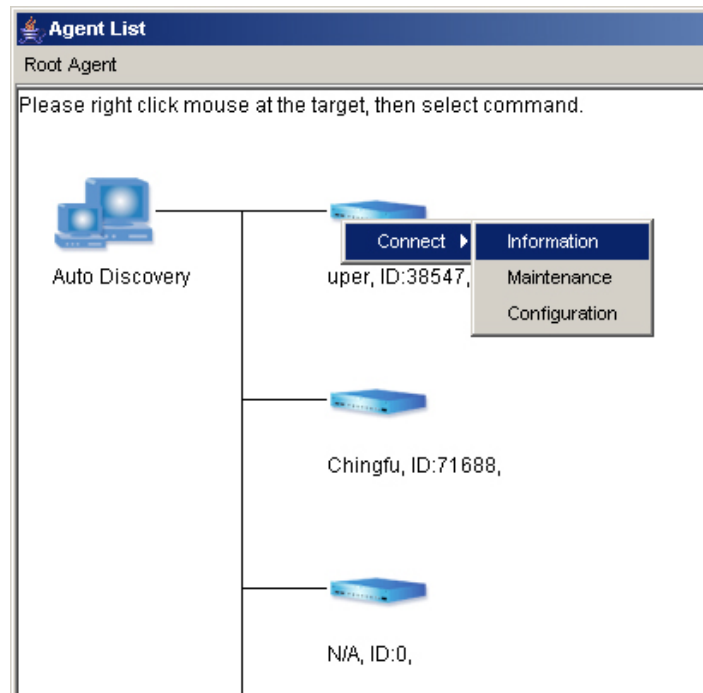

Figure 6-6: Retrieve IP List: IPs Managed by Root Agents
Step 1. If you would like to see the available RAID subsystems that are connected to the network or a specific root agent, you may click the **Show Root Agent List** button on the bottom of the RAIDWatch Connection window. The window displays the tree tables of the available RAID systems that are detected by Auto Discovery function. An example of an Agent List window is shown in **Figure 6-6**.